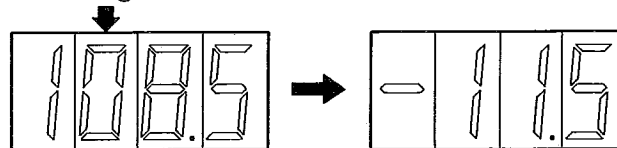

Fig. 4-3 Output level limits
- (a) Press the LEVEL key, the second of the four FUNCTION keys (22) , making the light in the key on. The OUTPUT LEVEL readout (12) remains to read the previous output level setting.
- (b) Press either of the DIGIT SELECTOR keys (10) . One of the digits on the OUTPUT LEVEL readout (12) will start to flash. This digit may then be altered with the MODIFY control (18) .
- (c) The flashing may be shifted to an adjoining digit with the DIGIT SELECTOR keys (10) ← or →.
- (d) Rotate the MODIFY control (18) to raise or lower the current digit reading. The digit will stop flashing.
The output level ranges from -17.9 to 132.0 dB for the dB EMF display and from -130.9 to 19.0 dBm for the dBm display. No matter how much the MODIFY control (18) is rotated, the display will not read outside these limits. For example, if the digit "8" in Fig. 4-3 is to be altered, rotating the MODIFY control (18) clockwise raises the reading to 131.5 dB but no further. Similarly, if the digit "0" in Fig. 4-3 is to be altered, rotating the MODIFY control (18) counterclockwise drops the reading only to -11.5 dB. (Note. The indication in the step next to 8.5 is -1.5 in lieu of -8.5, since the decrement is 10 dB in this case.)